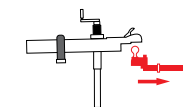

Figure 36
10. Pull your tow vehicle away slowly, lock your trailer coupler and you are done. (Figure 36)